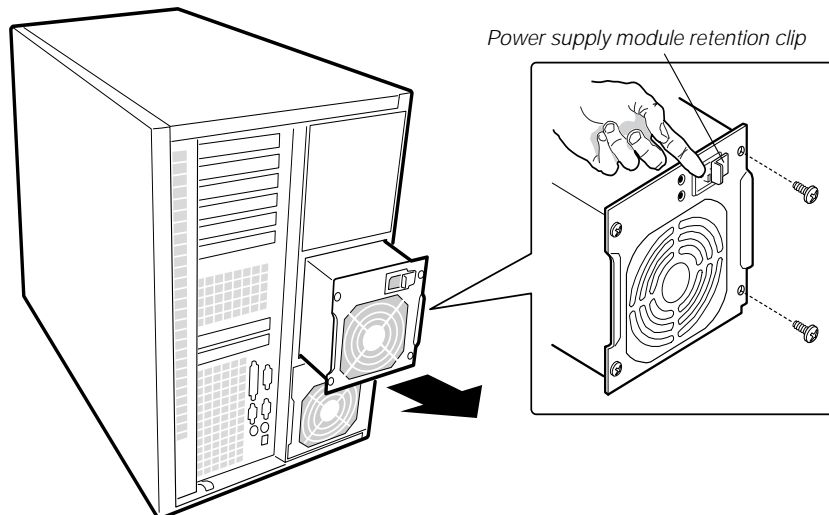

Figure 27: Removing a Power Supply Module
1. Disconnect the AC power cables from the power supply modules. You must hold the power supply retention clip to the side as you remove the power cord (see Figure 27 on page 66).
2. Remove the four screws (Figure 27) holding the power supply module to the back of the chassis.
3. Using the flared, vertical edges as handles and using both hands, slide the power supply module straight back from its bay (Figure 27).
7. Connect the AC power cable. You must slide the cover on the AC connector to access the connector itself (Figure 27 on page 66).